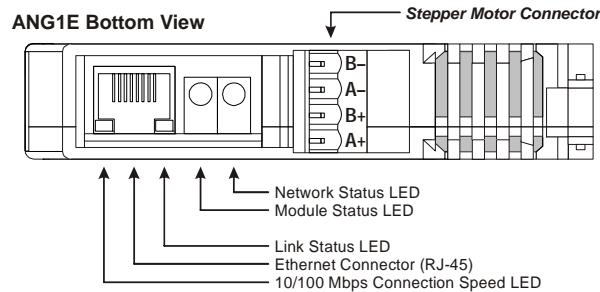

Figure R1.4 Ethernet Port and Motor Connector Locations
The IANG1E includes an Ethernet port. Physical connection is made through an industry standard RJ-45 port. Figure R1.4 shows the location of the network connector. An IANG1E can act as the network connection for up to five additional AnyNET-I/O modules.
Figure R1.4 also shows the location of the Stepper Motor Connector. The mate to this connector is included with the IANG1(E) and is also available from IDEC under the part number IMS-4M. It is also available from Phoenix Contact under their part number 187 80 37.